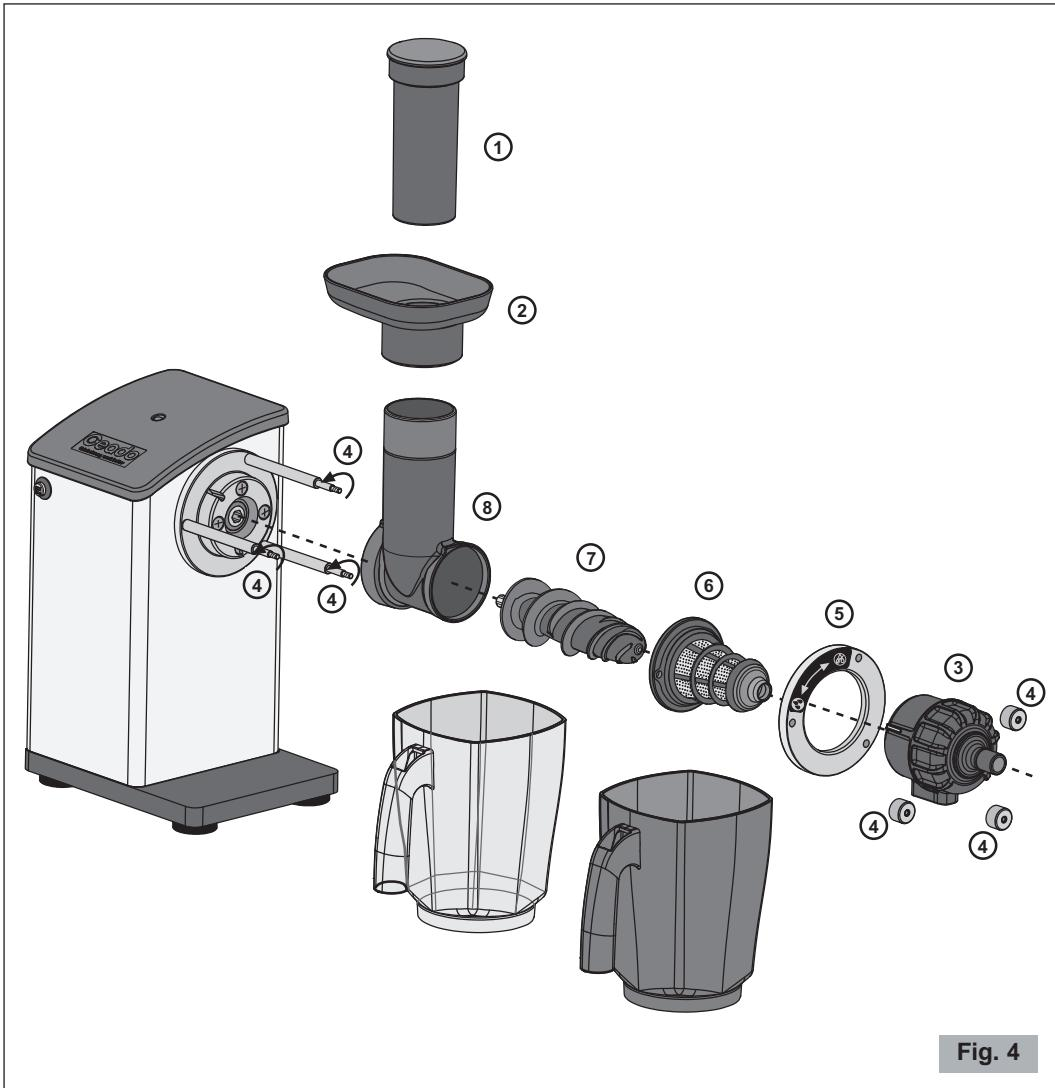

Fig. 4
- 1 Remove the jugs and disassemble the components in the order shown in the figure (Fig. 4).
- 4 Reassemble in reverse order (Fig. 4).